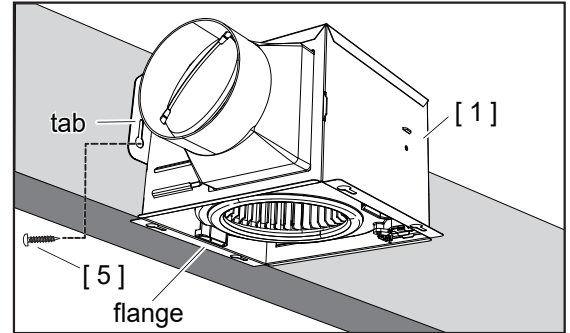

Fig 6
2. Secure the tabs with Long Screws [5] as figure shows. (Fig 6)